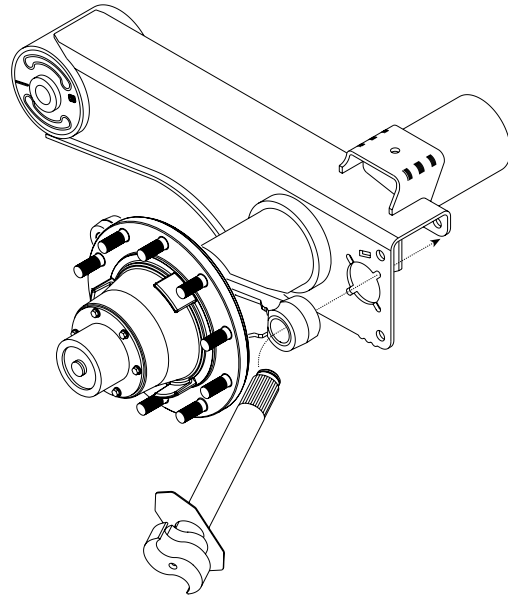

Figure 22: Installing the S-cam on Cam Tube System Models
3. **Slide** the underhead cam washer onto the S-cam until it contacts the S-cam head as shown in Figure 22.
4. **Angle and slide** this S-cam assembly through the spider and beam (Figure 22).